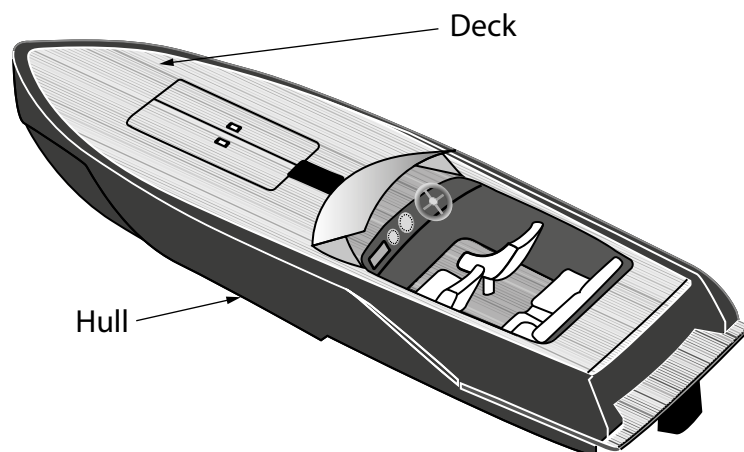

Figure 5
- 6 Figure 5 shows a speedboat with a teak deck and a glass fibre (GRP) hull.